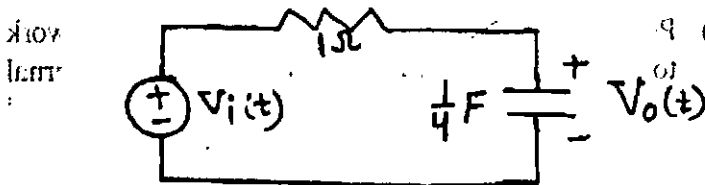

Fig. 5
- 5 a) Assuming $v_i(t) = tu(t)$, find $i(t)$ in the RC circuit of Fig. 5. (7 + 7)